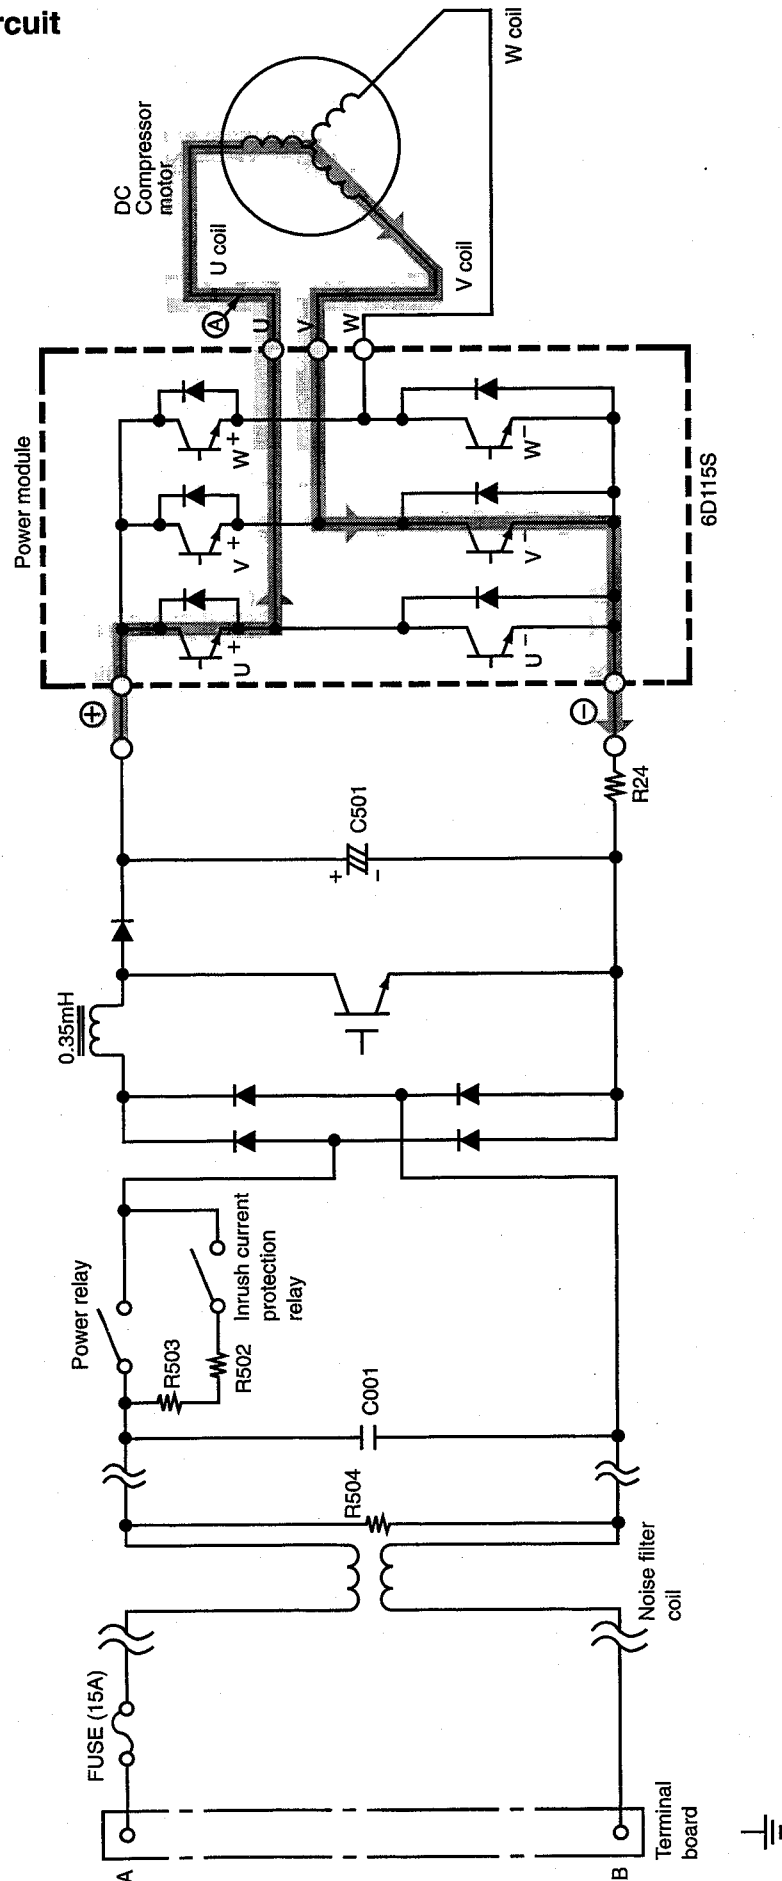
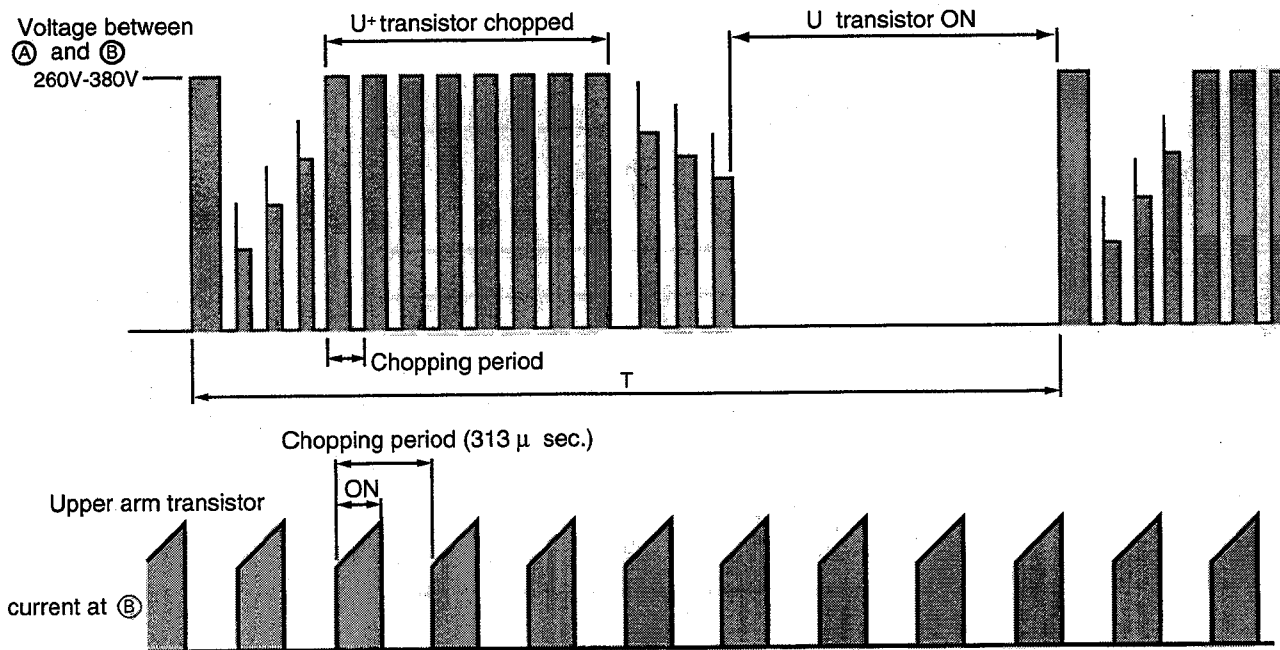

Fig. 3-1 Power module circuit (U+ is ON, V- is ON)
Fig. 3-3 Voltage waveform at each point
- Fig. 3-1 shows the power module and its peripheral circuit.
- Fig. 3-3 shows voltage waveform at each point shown in Figs. 3-1 and 3-4.
- When power is supplied  $U^+ \rightarrow U^-$ , because of that  $U^+$  is chopped, current flows as shown below; (B)
(1) When  $U^+$  transistor is ON:  $U^+$  transistor  $\rightarrow$  U coil  $\rightarrow$  V coil  $\rightarrow$   $V^-$  transistor  $\rightarrow$  DC current detection resistor  $\rightarrow$  Point (B) (Fig. 3-1)
- Since current flows at point ⑥ only when U+ transistor is ON, the current waveform at point ⑥ becomes intermittent waveform as shown in Fig. 3-3. Since current at point ⑥ is approximately proportional to the input current of the air conditioner, input current is controlled by using DC current (Id) detection resistor.